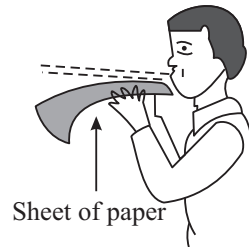

Fig. 9.31
2. Press down lightly on horizontal part of the paper as shown in Fig. 9.31 so that the paper curves down.